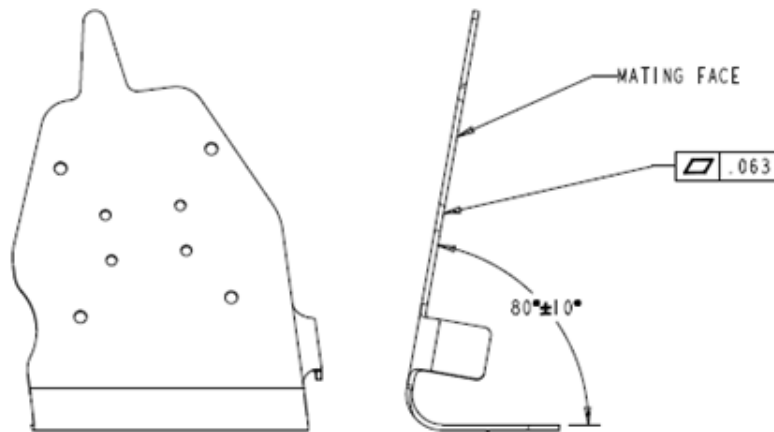

Figure 3. Shield Condemning Limits
- 7.5.1 Flatness of mating face may not exceed .063", see Figure 3. If flatness of mating face exceeds .063", the part must be replaced.
- 7.5.2 Angle between mounting face and shield bottom must be  $80^\circ \pm 10^\circ$ , see Figure 3. If angle between mounting face and shield bottom exceeds  $80^\circ \pm 10^\circ$ , the part must be replaced.